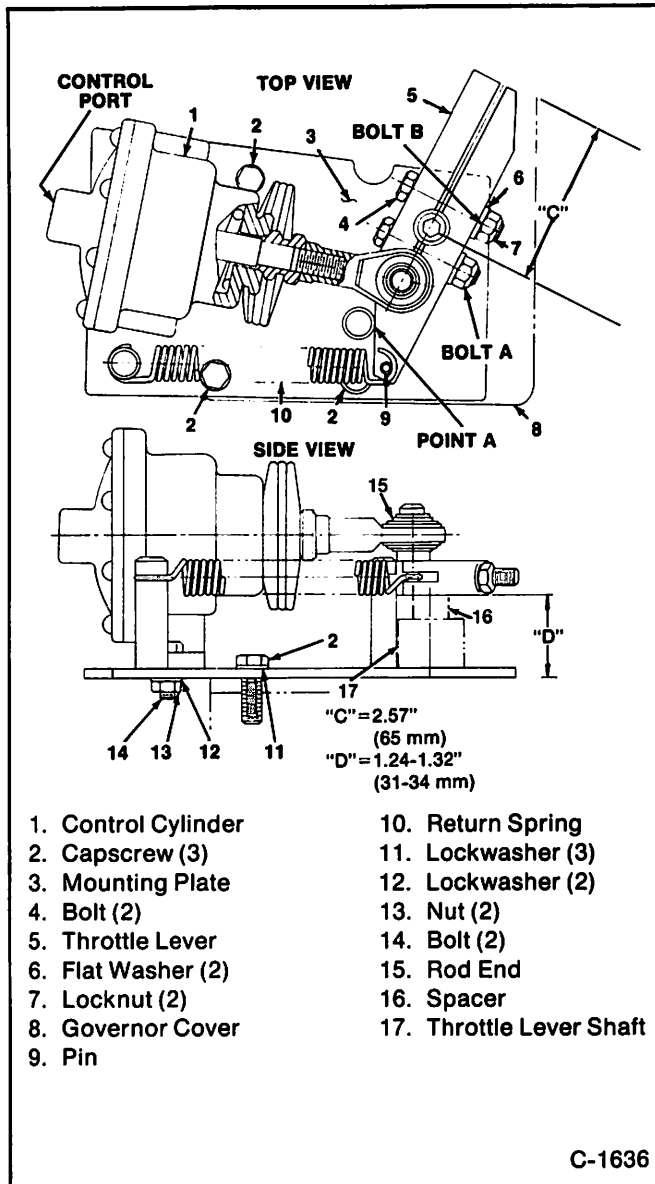

Figure 5—Accelerator Control Slave Cylinder Assembly
REMOVAL (FIGURE 5)
INSTALLATION (FIGURE 5)
1. Position the throttle lever (5) on the throttle according to the dimensions shown in "C" and "D" in figure 5. The top of the lever should be aligned with the top of the alignment post at point "A" as illustrated.
2. Install the return spring (10) between the pin (9) in the throttle lever and the post on the mounting plate.
3. For proper alignment, the throttle shaft must be at the full idle position with the throttle lever (5) in contact with the alignment post at point "A."
4. Lubricate the rod end of the slave cylinder with high temperature grease (see LUBRICATION, SEC. 0B) and slip the rod end pin into place in the throttle lever. Secure the slave cylinder (1) to the mounting plate (3) using two bolts (14), lockwashers (12), and nuts (13).